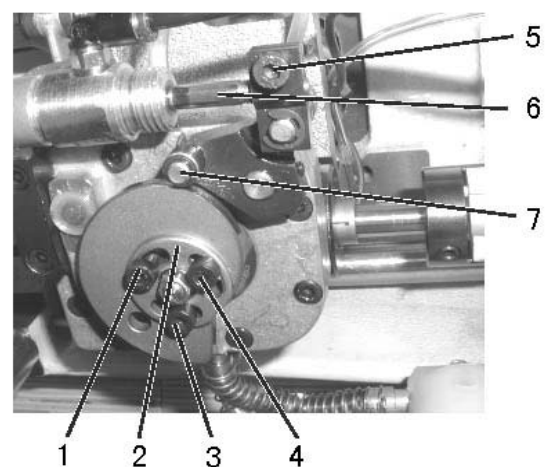

Fig.38
27) Adjusting the thread trimming timing(Fig.38)